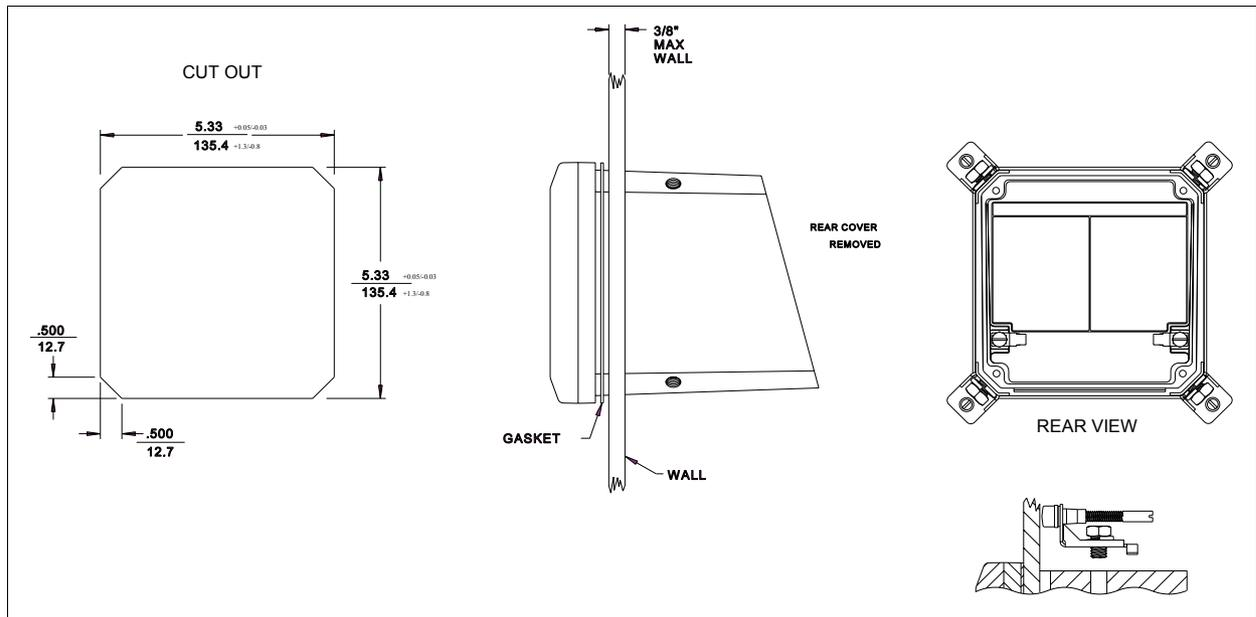

Figure 3-5. Panel Mount Installation Diagram
Using Figure 3-5 as a reference, mount the TB84PH analyzer as follows:
2) Cut a 135.4 mm x 135.4 mm hole with diagonal corners through the panel as shown in Figure 3-5.